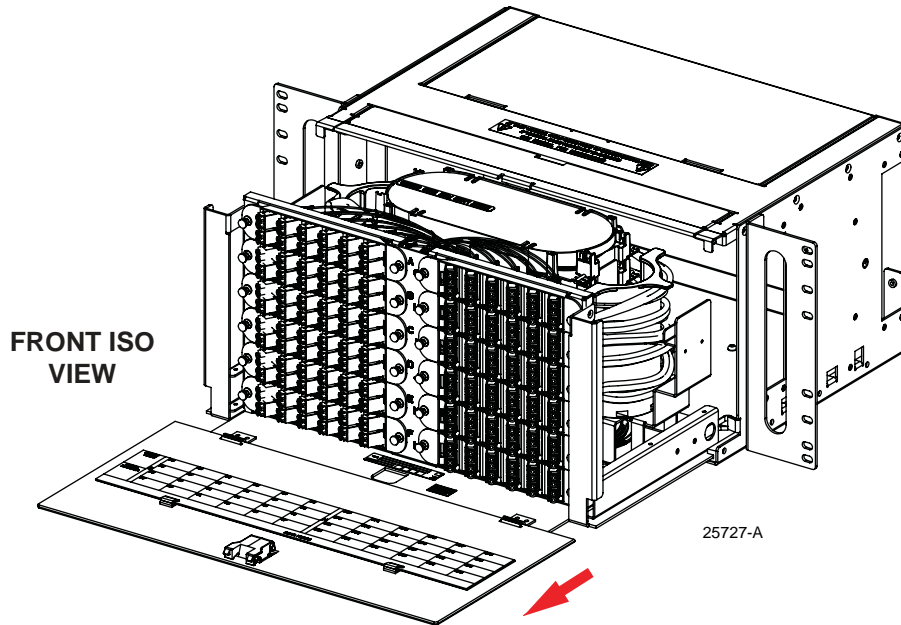

Figure 42. Sliding the Drawer Forward
3. Slide drawer out to full extension as shown in Figure 42.